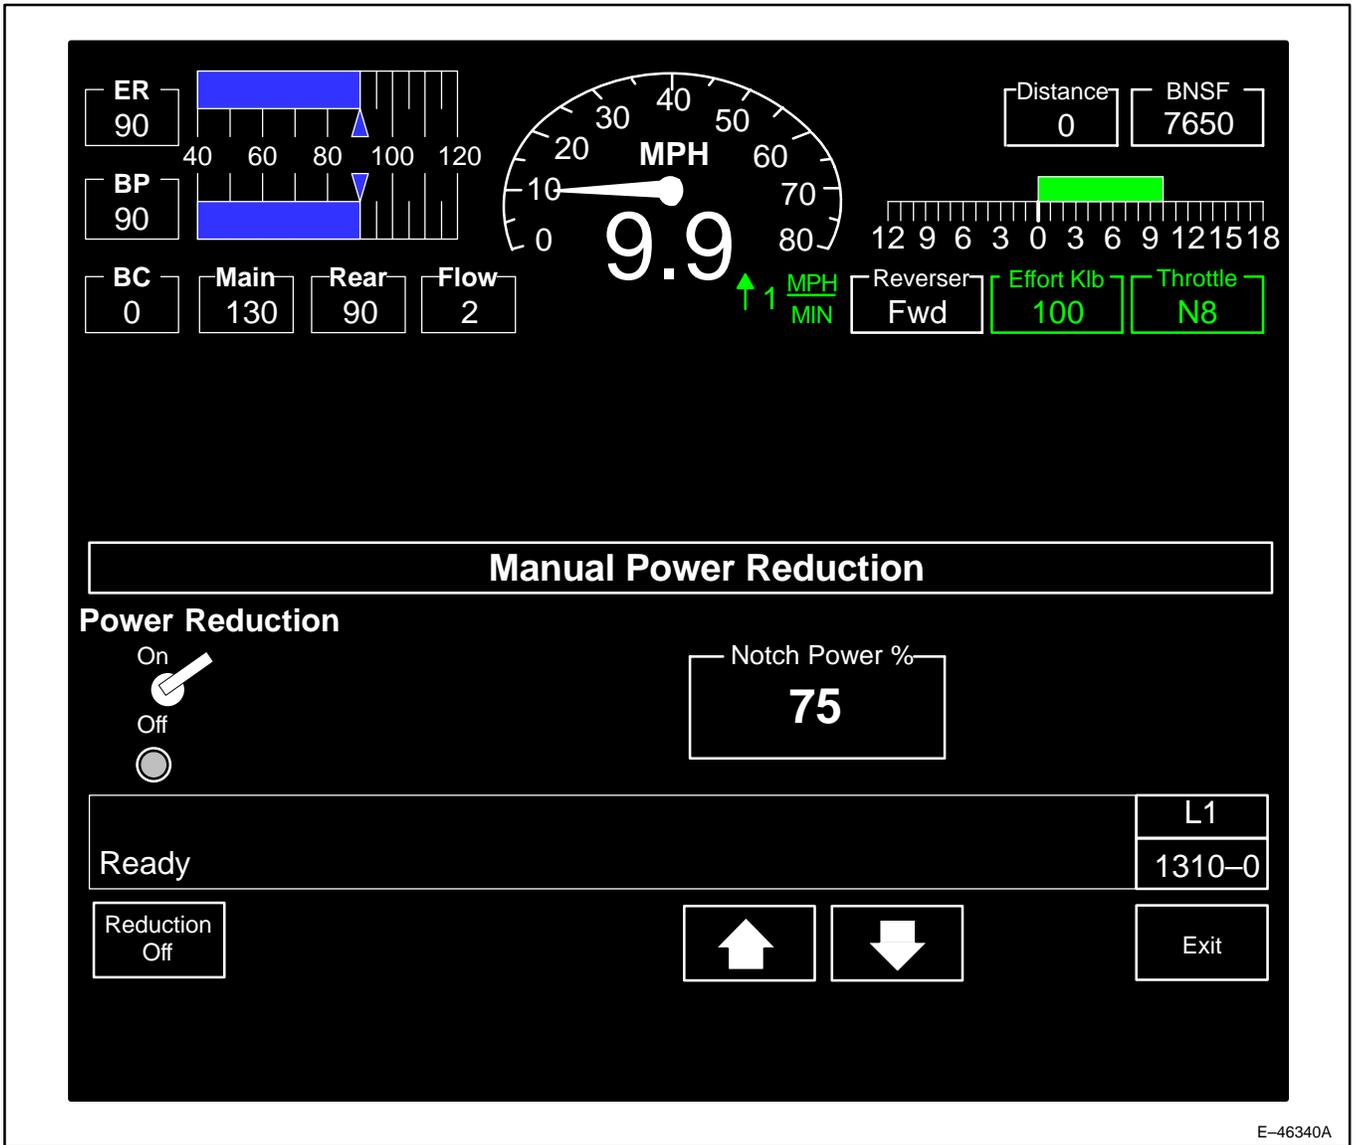

Figure 57. Manual Power Reduction Screen (1310-0).
3. Pressing key position F (**Power Reduction**) will display screen 1310–0 (Figure 57). Seven keys are available on this screen as follows: